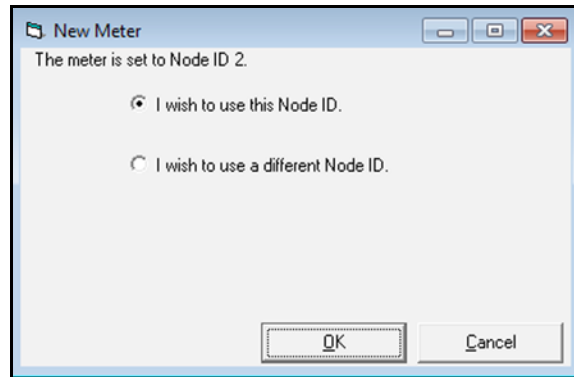

Figure 4: The New Meter Node ID
- Right click on *Com Port* icon and select *New Meter*. On first screen of the *Add New Meter* wizard select “*I don't know the node ID of the meter I am adding to the network*” and click **OK**. On the second screen select “*It is the only meter connected to the communications port*” and **OK**. If the meter is found, a screen similar to *Figure 4* below will open. Click **OK**.